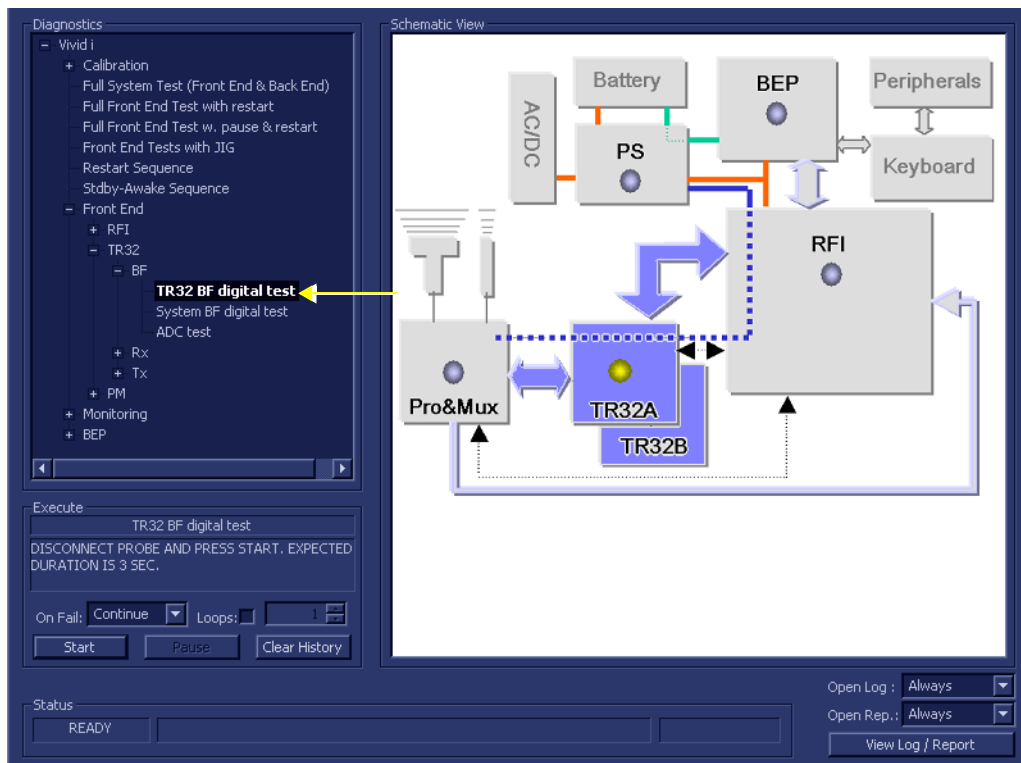

Figure 7-21 TR32 BF Digital Test
- 1.) In the *Diagnostic Test* window, trackball to **TR32 BF Digital Test** in the list of *TR32, BF* tests available for selection from the Diagnostic Test Tree (see Figure 7-21 below) and press **Set**. The TR32 BF Digital Test name is displayed under *Execute*; the relevant system components to be tested are highlighted light blue in the Schematic View (TR32A and TR32B), as shown below: